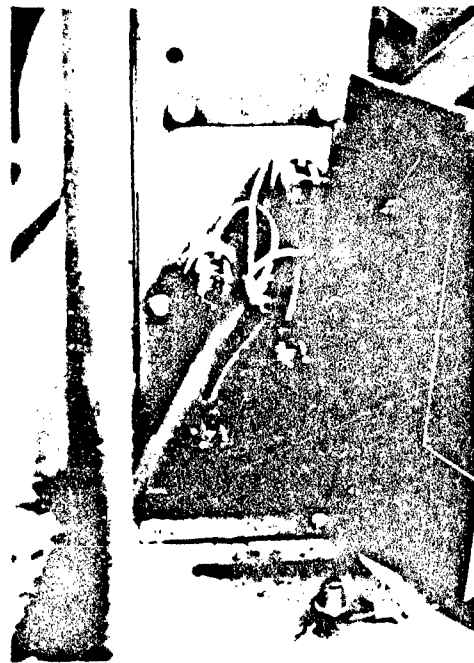

Figure 43. Blower cable connected to generator
4. The white wire is connected to the terminal marked L3 (Figure 43).